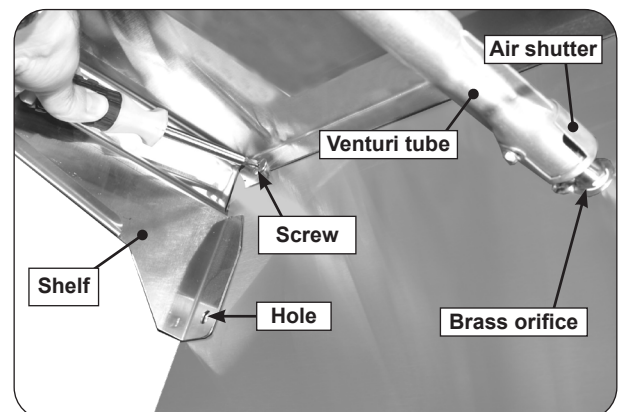

Fig. 28-4 Burner shelf setup (under shelf view)
2. Hold the sideburner shelf up against the left side wall of the grill so that the holes in the shelf line up with the four (4) threaded screw holes in the side wall and the air-shutter end of the sideburner venturi tube fits around the brass orifice protruding from the side of the cart. See Fig. 28-4.
3. Insert and start screws with fingers and then tighten using a Phillips screwdriver. See Fig. 28-4.